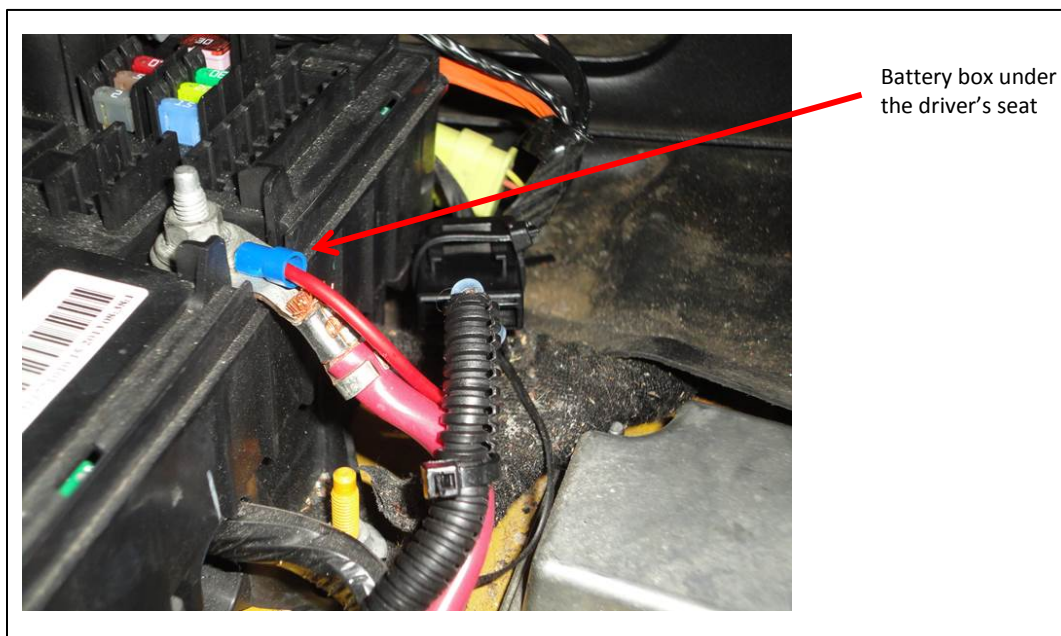

Figure 4 Splicing the RING_TERM_BATT+ wire to the fuse panel under seat
- 8.3 Find the battery terminal on the rear side of the fuse panel, see **Figure 4**. Remove the nut, insert the ring terminal, and tighten the nut back down.